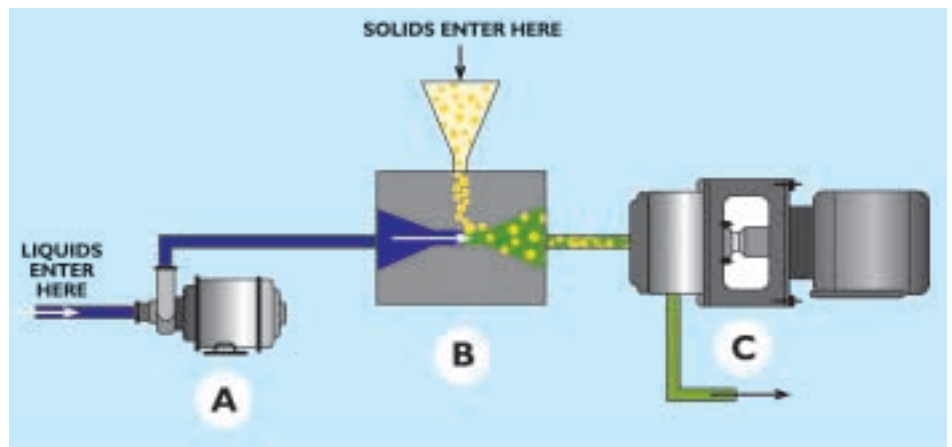

Figure 1
In this system, a pump (A) accelerates liquid downstream into an eductor, creating a vacuum. Powder fed through an overhead tube is drawn by this vacuum into the eductor (B) where it joins the liquid flow. A rotor/stator mixer (C) then applies shear and mixing action, which breaks down agglomerates, positively mixes the powder and liquid, and propels the flow downstream (See Figure 1).